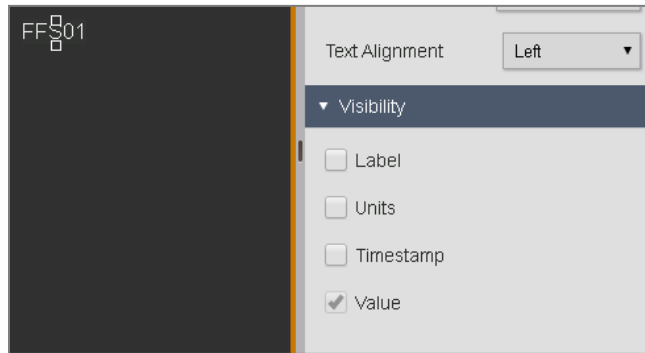

Figure 17. Visibility tab of the Value symbol
Step 6. Expand the **Visibility** tab and uncheck the Label, the Units and the Timestamp checkboxes (leave just the **Value** checkbox ticked as in Figure 17).